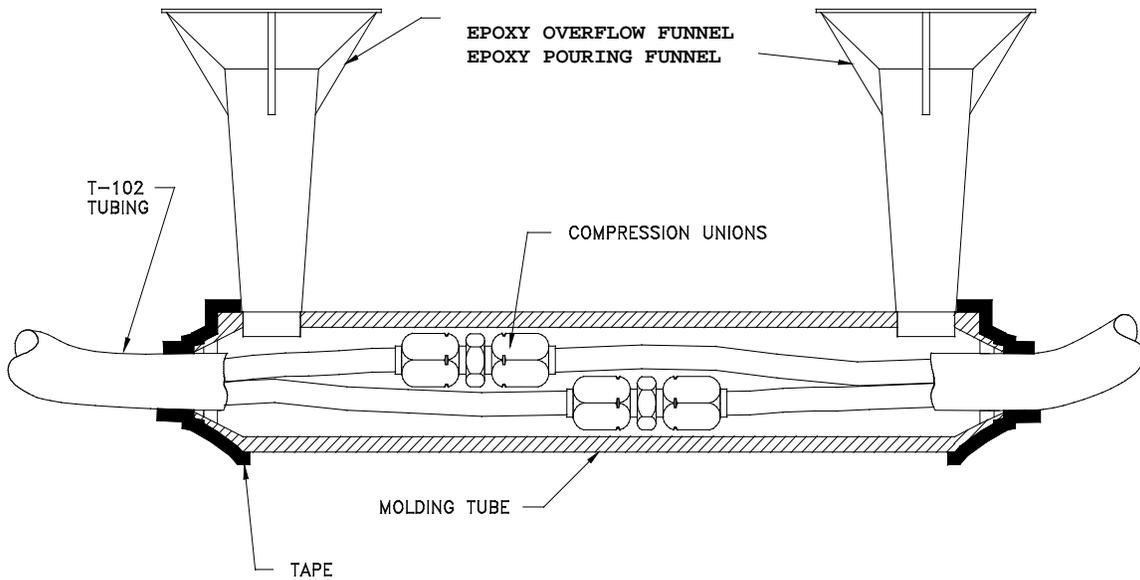

Figure 5 – Splicing Pneumatic Tubing
2. Lay out the tubing and cut the individual tubes so that the unions will be staggered when the tubes are joined (Figure 5). Make sure to cut the tubes as square as possible.
3. Using **ONLY** the brass compression fittings provided, join the pneumatic lines maintaining the black to black, white to white, colour coding (see Figure 5). **Never re-use any old compression fittings.** Insure that the tubing has bottomed in the fitting. Finger tighten the compression nuts, and then apply 1 full turn with a wrench. **Do not over tighten!**
4. Snap the mold body around the completed splice and install the pouring spouts (Figure 5).